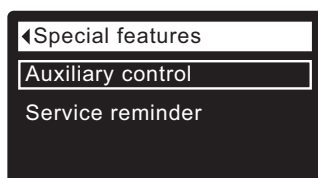

FIG. 85
1. From any of the rolling status screens, press the SELECT (O) button to display the **Main menu**.
3. Press the SELECT (O) button to display the Advanced settings menu.
5. Press the SELECT (O) button to display the Special features menu (See Figure 85).
9. Press the SELECT (O) button. The display will go back to the Special features menu (Figure 85).